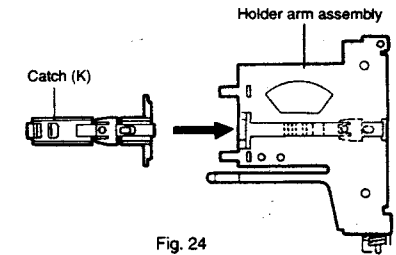

Fig. 24
4. Set the catch (K) to the holder arm assembly as shown in Fig. 24.